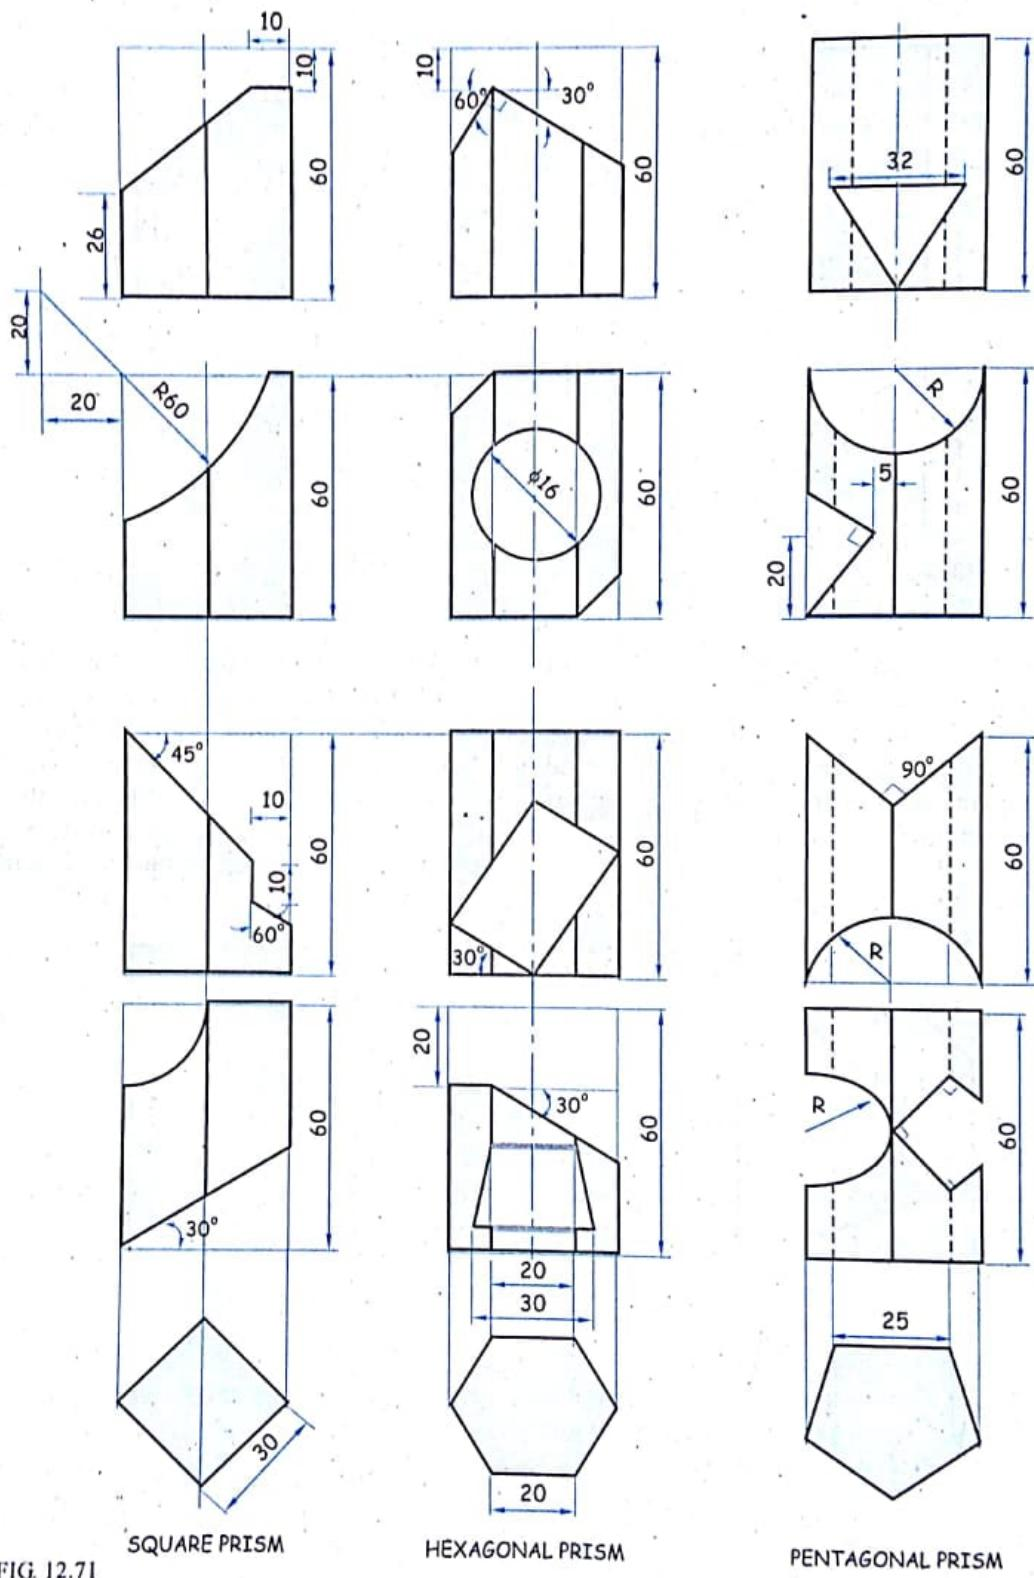

FIG. 12.71
12. Figure 12.71 shows front view of the cut prisms. Draw the development of retained portion of the prisms.